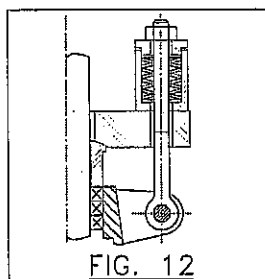

FIG. 12
- *Figure 12* ► it represents a detail of live loaded packing.